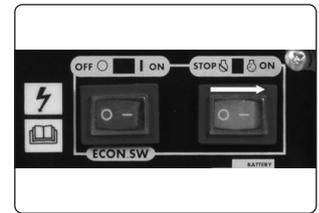

fig.8
- 6.3.4. Turn the engine switch (Red) to "ON" fig.8.